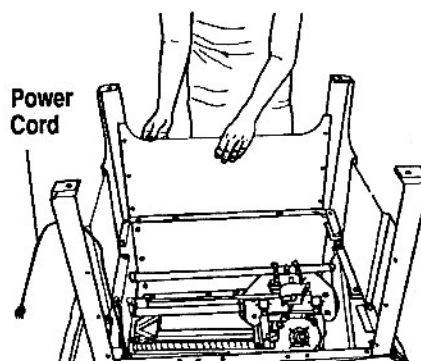

Fig. 10
16. Place a side panel (17) between the two end panels and against the cabinet, as shown in Fig. 10. It should be inside the end panel legs.
Make sure you place the power cord up through the corner opening created by end and side panels. This ensures that the cord is not entrapped by the panels. (The power cord is supposed to hang directly from the switchbox to the floor.) See Fig. 10. Do this before you attach the side panels.